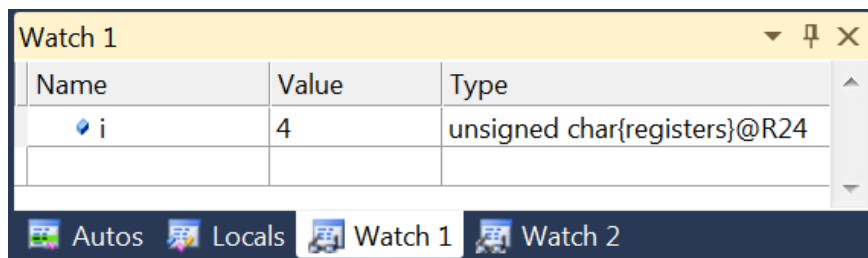

Figure 10: Watch window for C variables.
- To monitor a C variable, select the variable name in the code window, click menu **Debug | Quick Watch**, and then click button **Add Watch**. The variable will be added to a watch window, as in Figure 10.